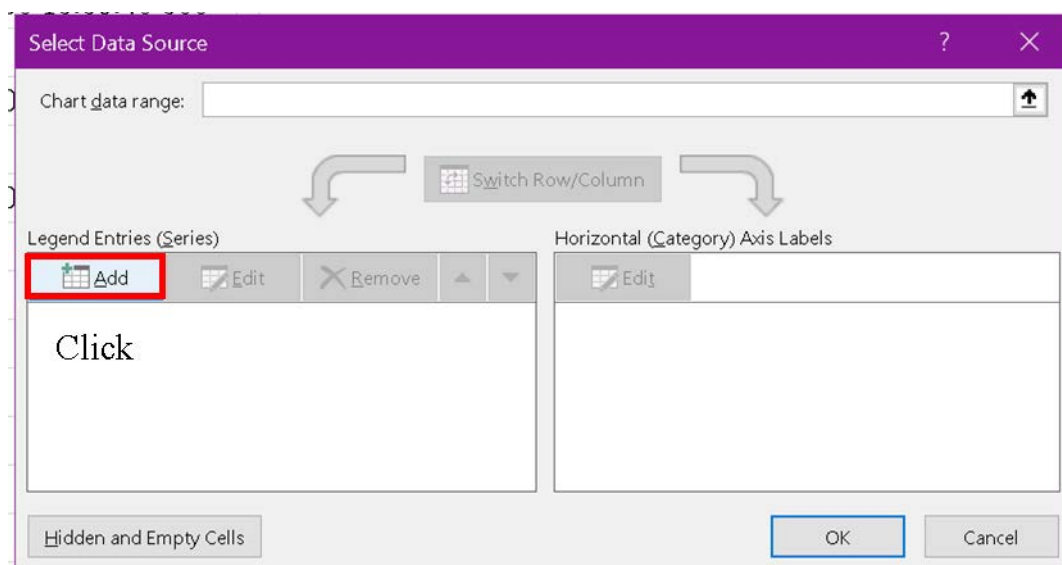

Figure 26. Selecting Data Source.
- 10) Right-click on the graph and select “Select data ...”, then the Select Data Source box is opened (Figure 26). Click “Add” in the Select Data Source box. If there is any data series, remove all. And then, Edit Series box is opened. Input Series name, Series x values, and